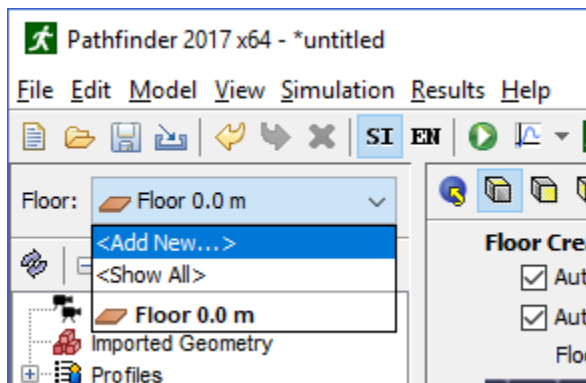

Figure 19. Adding a new floor
1. Click on the floor drop-down box above the Navigation View, and select **<Add New>** as shown in Figure 19. A dialog will open asking for the floor location.
To change the active floor, click the floor drop-down box as shown in Figure 19, and select the desired floor. This will make that floor active and all other floors non-active.
To show all floors click the floor drop-down box as shown in Figure 19, and click <Show All>.